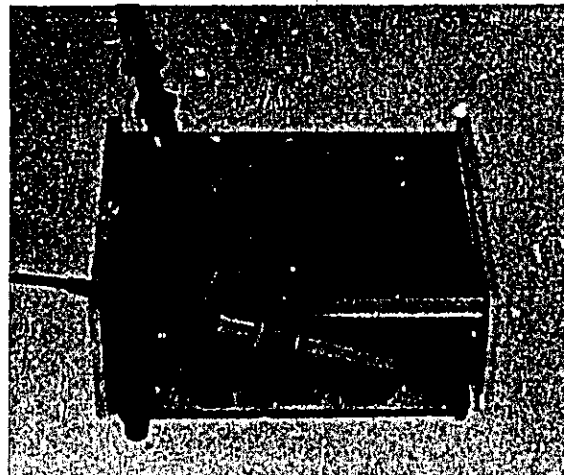

Figure 5-6. Contact Resistance Check (II)
- g. Set the 4437A controls to 119.9dB and connect Model 4328A between lower terminal at OUTPUT and switch side of resistors (R3, R6, R9, R12, R15, R18, R21, R24, R28, R32, R36, and R40). See Figure 5-6.